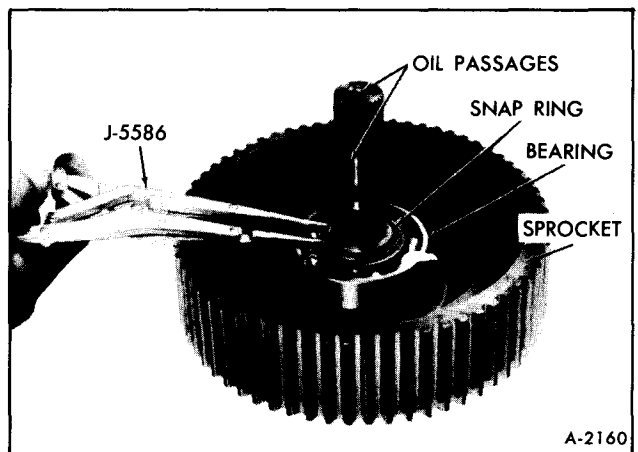

Figure 34—Removing Sprocket Bearing Snap Ring
a. Remove sprocket to bearing assembly retaining snap ring using Snap Ring Pliers, J-5586, Figure 34.